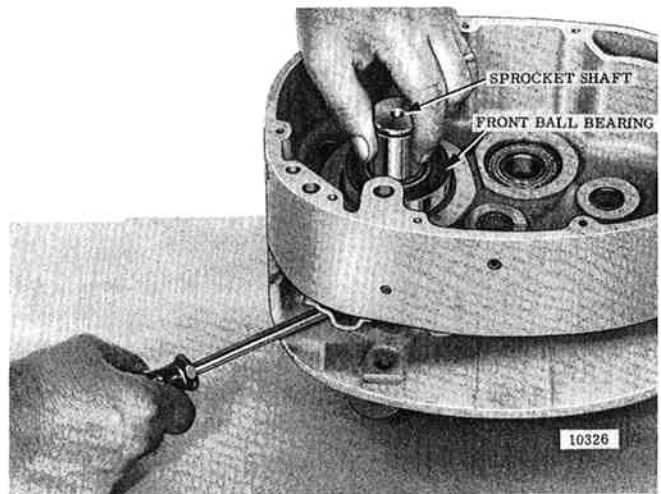
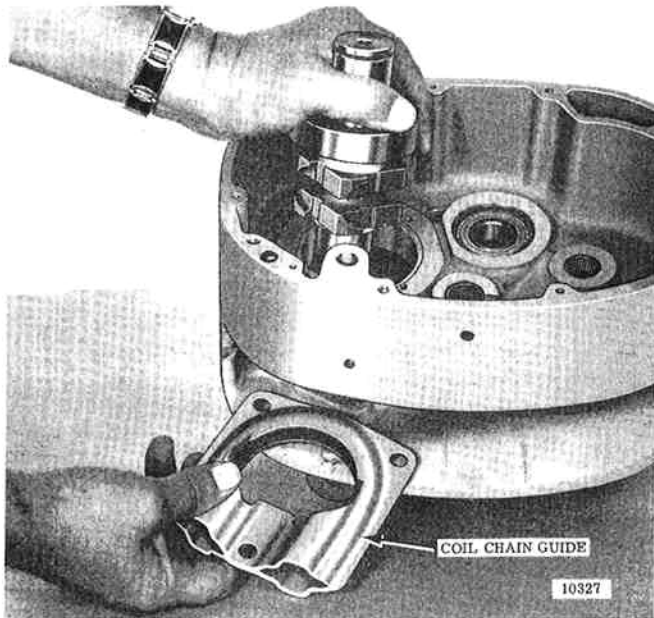
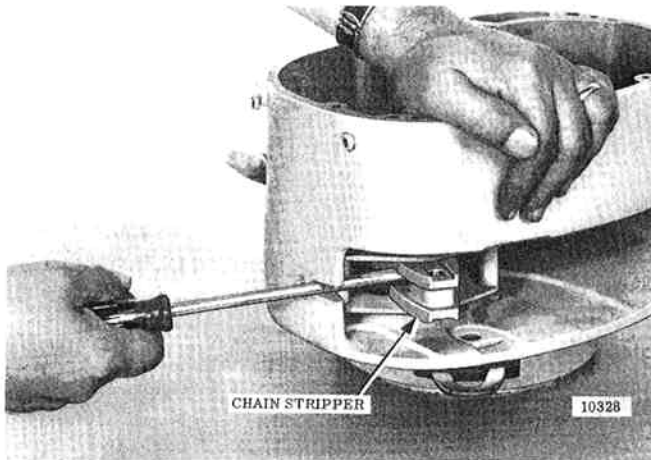

Figure 7-14. Removing Sprocket Shaft and Front Bearing.
Figure 7-15. Chain Guide Being Removed From Frame as Sprocket Shaft is Lifted Out (Link Chain Models).
Figure 7-16. Chain Stripper Being Partly Removed From Chain Guide (Roller Chain Model).
(4) Remove sprocket shaft and front ball bearings assembly from frame by lifting up on end of shaft while prying up on sprocket as illustrated in figure 7-14. The chain guide will need to be repositioned in frame as sprocket shaft is raised to allow the sprocket to pass thru hole of guide (fig. 7-15). On roller chain model hoists, the chain stripper must be partly removed from guide by prying it out using screw driver or other suitable tool. See figures 7-16 and 7-17.